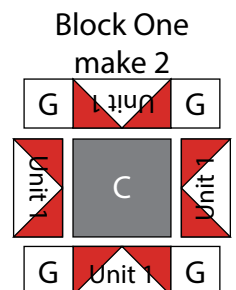

Fig. 7
6. Sew (1) $2''$ Fabric G square to each end of (1) Unit 1 strip to make the top row. Repeat to make the bottom row. Sew (1) Unit 1 strip to each side of (1) $3\frac{1}{2}''$ Fabric C square to make the middle row. Sew together the (3) rows lengthwise to make (1) $6\frac{1}{2}''$ Block One square (Fig. 7). Repeat to make a second Block One square.